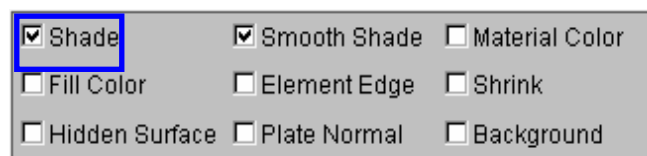

Figure 3.49 Display options
2. Toggle on the **Shade** checkbox in the display options illustrated in Figure 3.49. The **Smooth Shade** option is also toggled on by default to enable smooth and continuous model display.